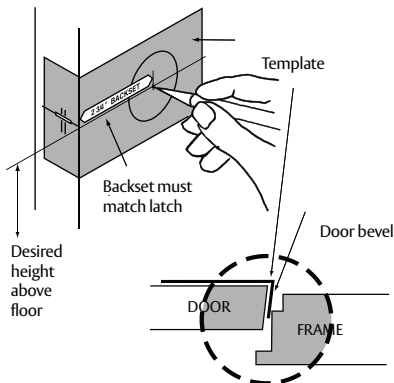

Figure 1
1. Use template FM623 to mark the door (Figure 1).